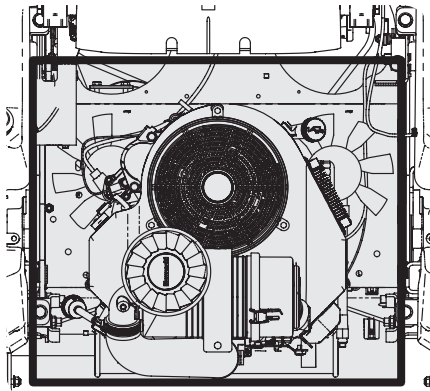

Figure 34
- Clean around the exhaust manifold, fuses, all wiring and harnesses, muffler pipe, muffler shield, engine intake screens and cooling fins, etc. See Figure 34.